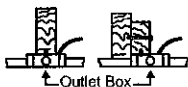

Fig. 1
3. Figures 1, 2, and 3 are examples of different ways to mount the outlet box in different situations. A longer downrod may be required in sloped ceiling situations to maintain proper blade clearance.